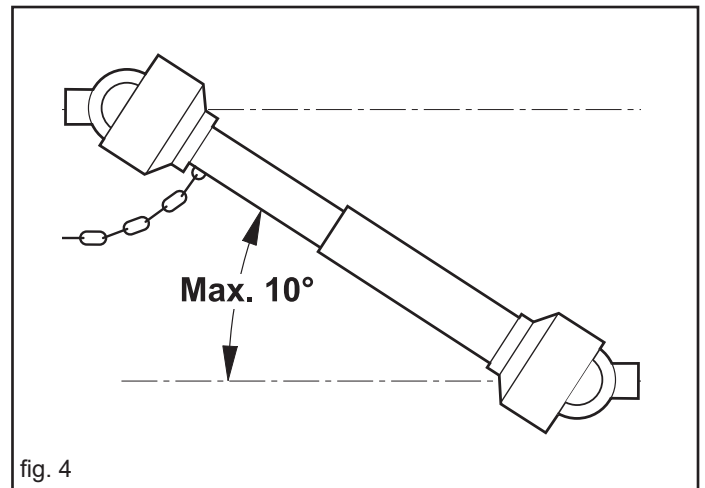

fig. 4
- 12) Always disconnect the power take-off when the Cardan shaft is at too wide an angle (never more than 10° - Fig. 4) and when it is not being used.